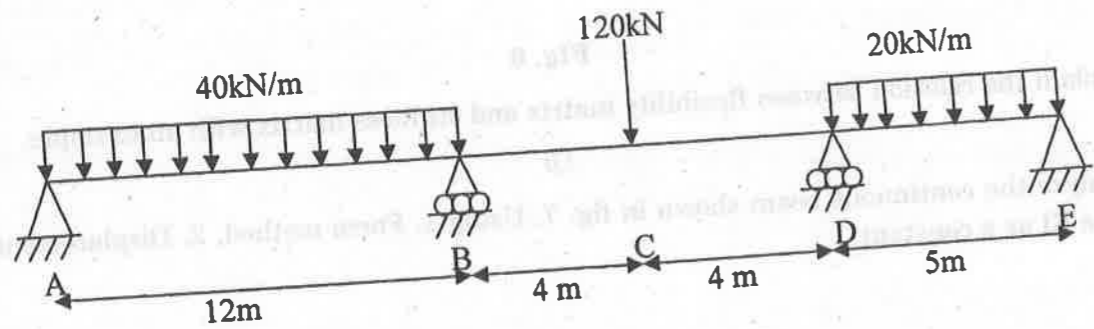

Fig. 9
18. Analyze the continuous beam fig. 9 shown below. Use force transformation matrix approach :